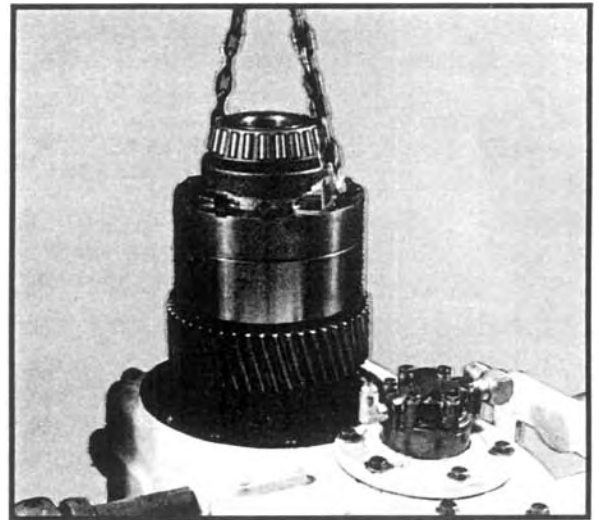

Fig 11
- Lift out the lower shaft assembly. See Figure 11. A chain may be attached to the assembly by installing two "L" brackets under two opposing differential case half bolt heads.